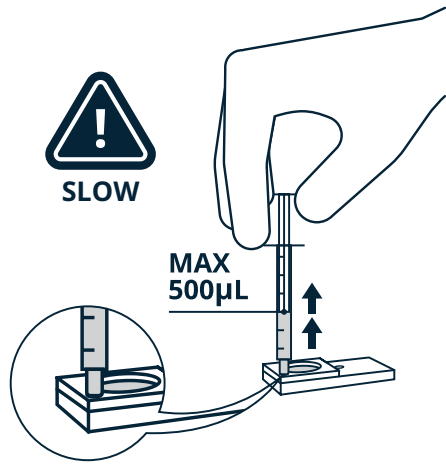

Figure 4. Slowly aspirate a maximum of 500µL.
- Insert a fresh 1mL syringe into the Outlet Port of the device. Slowly aspirate a maximum of 500µL of the sperm containing fluid (Figure 4).